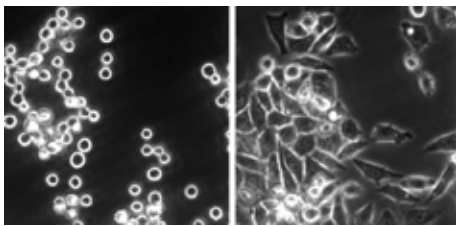

Figure 6 Cell Adhesion and Culture
4. Cells can be cultured in the plates with a standard incubator prior to microscopy (see Figure 6). Wash and replace well E with 300 μ l of cell culture medium. Add 50 μ l of PBS or medium to well F. This will cause the fresh medium to perfuse the loaded cells by a gravity driven process from E \rightarrow F at a rate of 20 μ l/day. Place the plate in a standard incubator for attachment and growth. Aspirate liquid from E and add medium to F every 5 days to maintain perfusion flow.